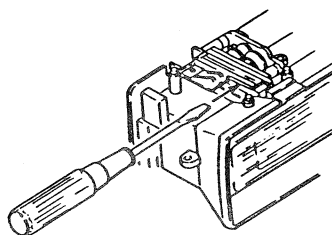

Fig. 12
- 6.6 Remove the zoom contact unit from the flash head. It can be removed by running a screwdriver under in and prying it off (Fig. 12). This gives access to the screws "B" holding the motor unit in place.